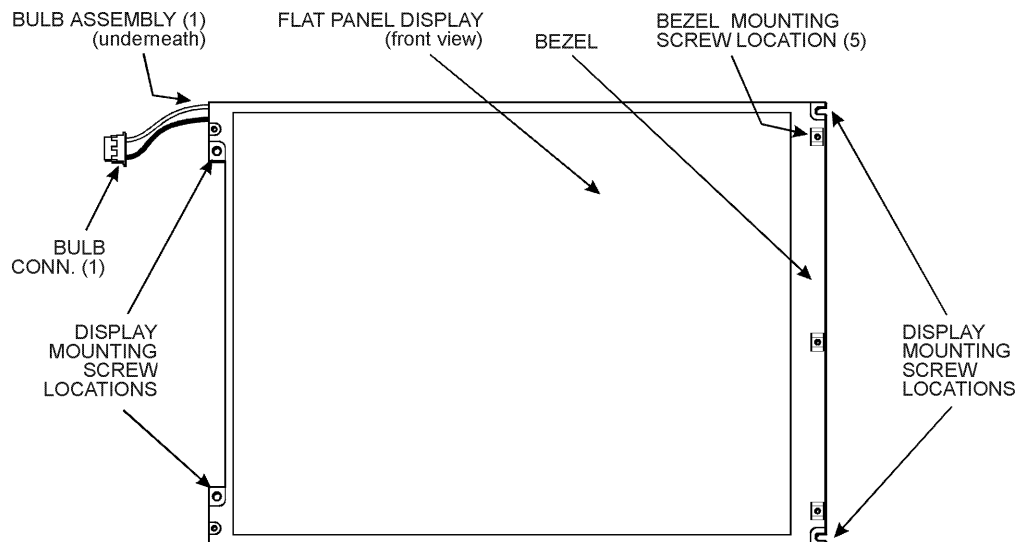

Figure D- 2. Model #AA12SB6C-ADFD Bulb Assembly - Front View
11. Referring to Figure D- 2, remove the five smaller bezel mounting screws.